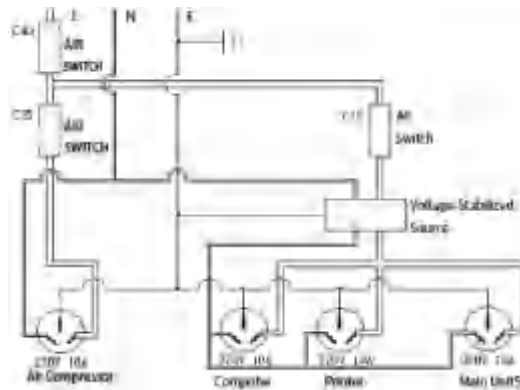

Fig. 2-3 Schematic diagram of power supply wiring and socket specifications
- 5) Refer to Fig. 2-3 below for the power supply wiring method and socket specifications.